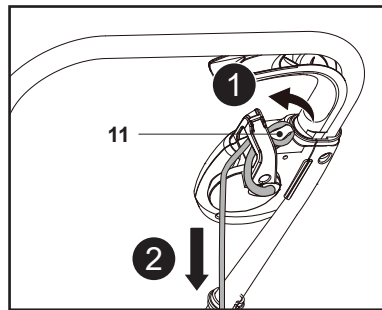

Fig. 11
1. Make a loop in the power cord and hang the loop onto the cord strain relief (11) (Fig. 11, step 1).
2. Gently tug on the power cord to ensure that it is firmly secured (Fig. 11, step 2).